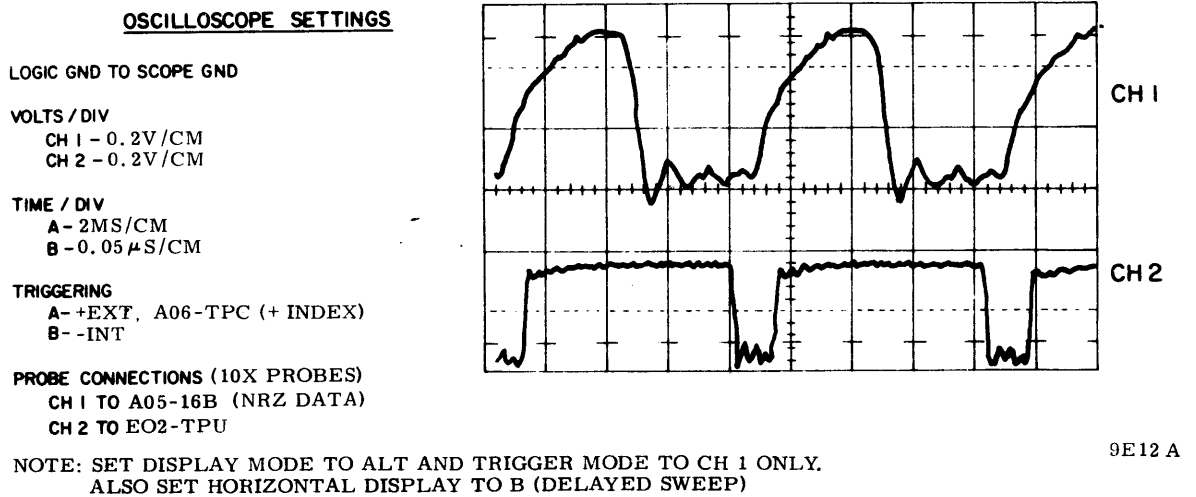

Figure 5-12. Write Driver Input Waveform
- b. Observe that signals have approximately the relationship shown in figure 5-12 and that channel 2 signal has proper polarity.